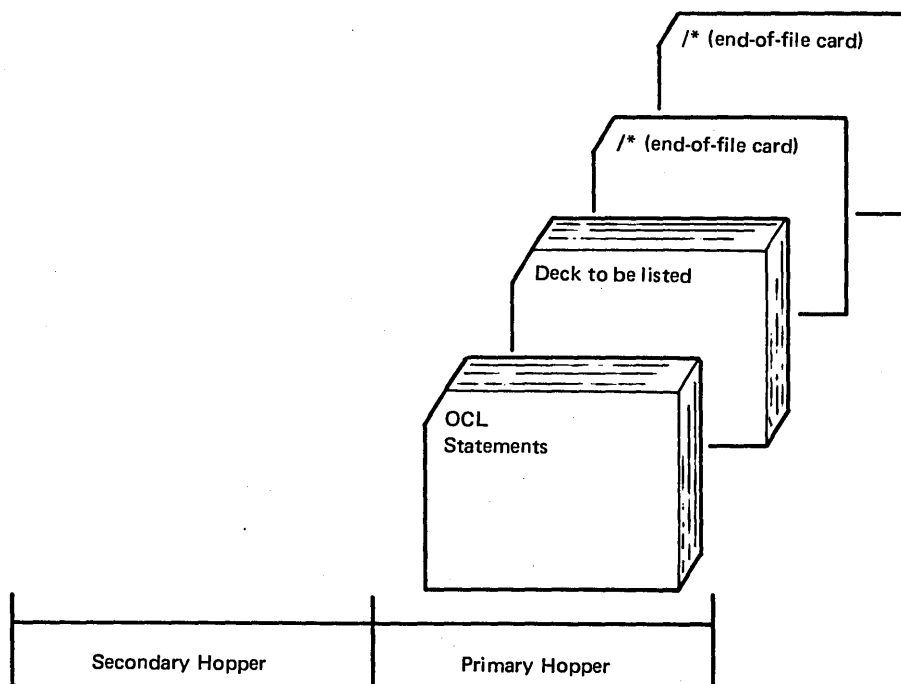

Figure 26. Input Deck for List Program
3. Place OCL statements and cards to be listed in primary hopper of MFCU (Figure 26). Load cards face-down, top edge to the left. Be sure two end-of-file (*/\**) cards are at the end of the deck to be listed.